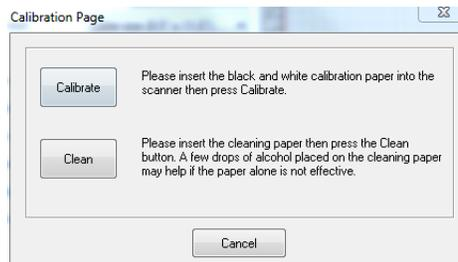

Fig. 2
- c. Insert the calibration target that came with your scanner then select “Calibrate” (Fig. 2).